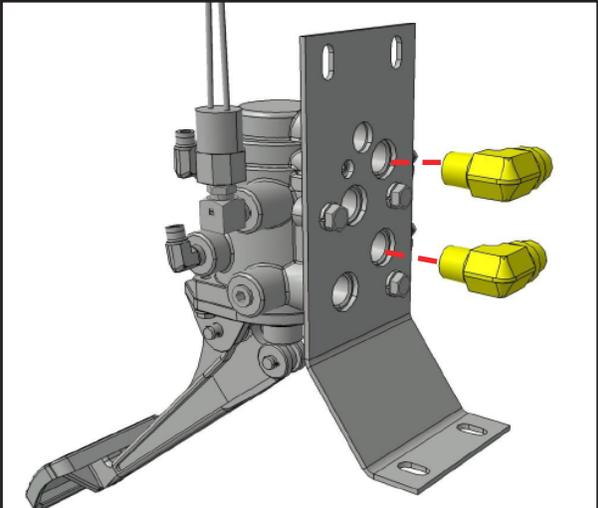

Figure 10: Remove and retain the two remaining 90° push-to-connect fittings.
10. Remove and retain the final two (2) 90° push-to-connect fittings (Figure 10).